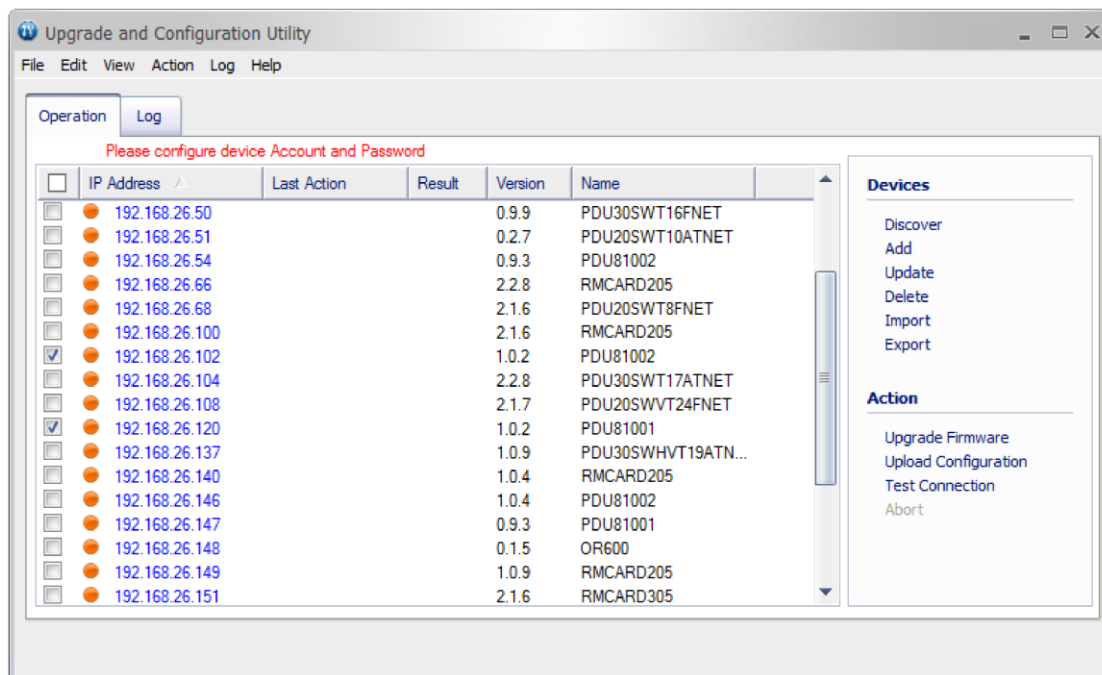

Figure 2
4. Check the checkbox to select devices listed in the Operation View (Shown in Figure 2).